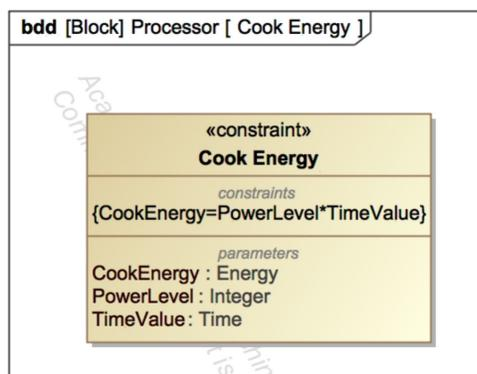

Figure 34. Constraint Block
- Once the basic SD is created, you can add Combined Fragments. Fig. 34 illustrates a Loop Fragment. These are available at the top of the Sequence Diagram area of the Tool Palette. Select a Fragment with the
C. Fig. 34 is a Constraint Block from the microwave oven model that defines Cook Energy as the product of Power Level and Time Value (the cooking time). To create the Diagram: